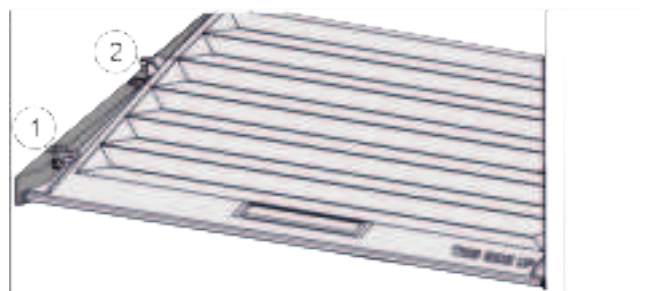

Fig. 93
- Pull the lid up at the front to the opening in the retaining parts Fig. 93 (1).
- Lift from the back and pull it up and out *Fig. 93 (2)*.